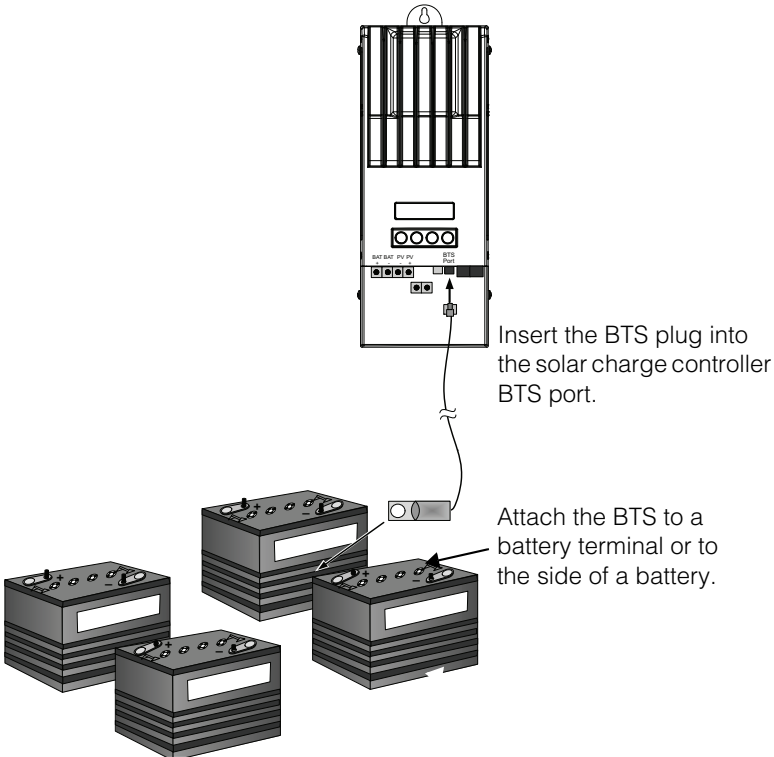

Figure 2-16 Installing the BTS
4. Pass the end of the BTS cable through a conduit hole on the solar charge controller and insert the BTS plug into the BTS port. See Figure 2-16.